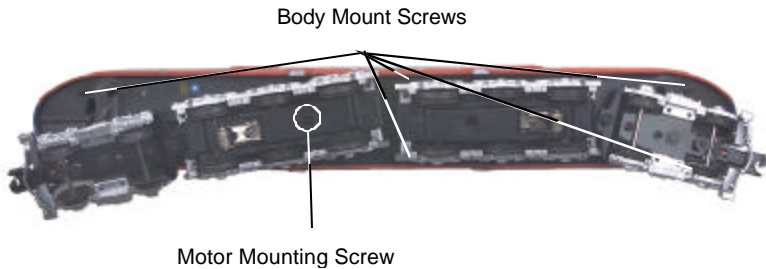

Figure 3: Removing the body from the chassis
1. To access the gear box, remove the cab from the chassis by unscrewing the chassis screws as seen in Figure 3 and lifting the cab from the chassis.
2. Once the cab(s) are removed, remove the trucks by unscrewing the black Phillips motor mount screw located on the underside of the drive trucks (see Fig. 3).
First, remove the truck sides from the truck block. To do this, turn your engine upside down and remove the chassis from the body as explained on page 11. Once the chassis has been removed from the cab, remove the trucks from the chassis by unscrewing the motor mounting screw (as seen in Fig. 3).